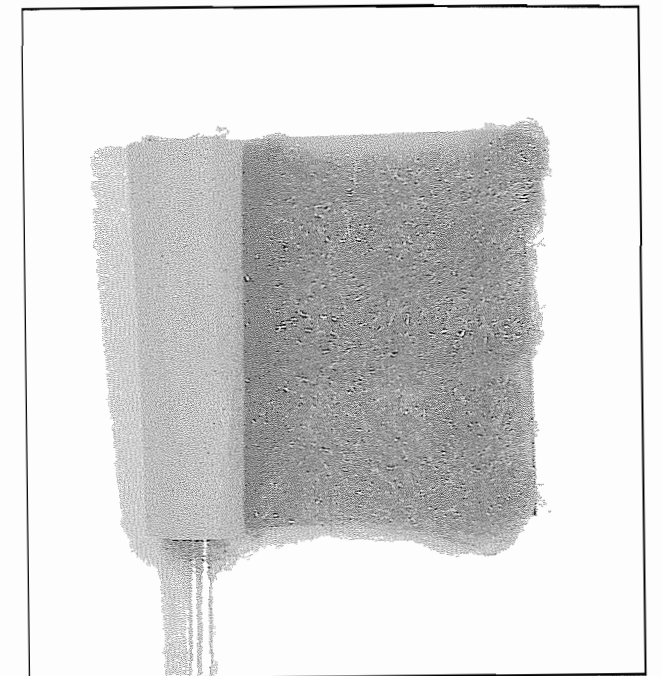

Figure 9-13. The sandpaper and steel wool are coiled around the rod like a jelly roll.
2. Spread the steel wool into a broad, flat pad, and lay it on the back of the sandpaper. Coil the sandpaper *and* the steel wool around the rod like a jelly roll (*Figure 9-13*), and be sure to coil it in the direction shown.